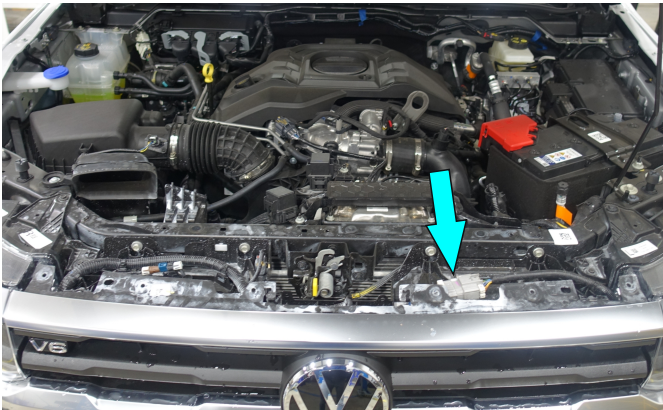

Fig.96
94. Connect factory wiring (fig.96).